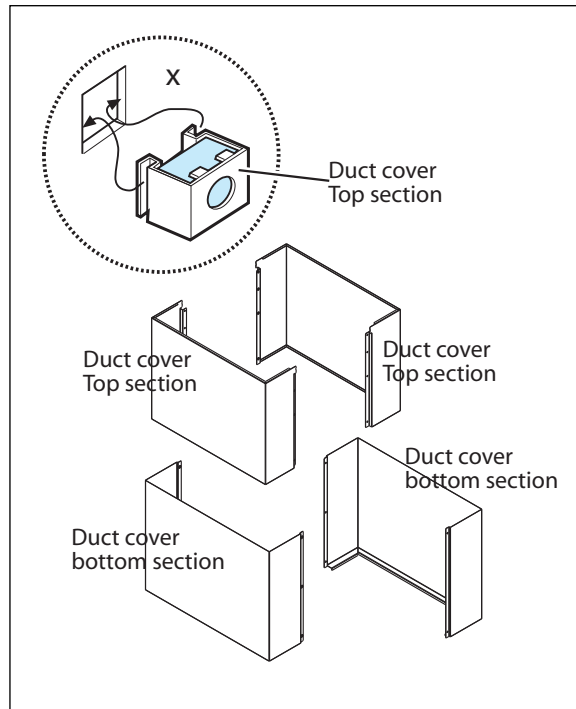

FIG. 15
1. Install the cage nuts from inside the rectangular slots supplied with top and bottom duct covers. See Fig. 15.